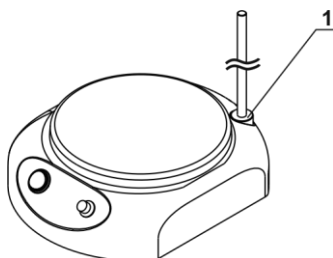

Fig. 1. MMS-3000 stand
3.4. MMS-3000 stand installation. Remove the screw on the fixing socket at the stirrer back (fig.1/1) and retain for future. Screw the part of the stand with the counter-nut into the fixing socket and secure with the counter-nut. Screw in the second part of the stand into the attached first part.